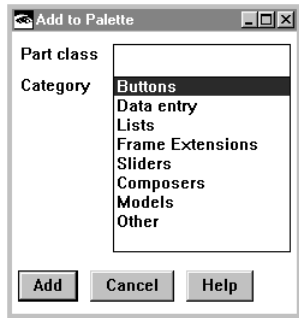

Figure 121. The Add to Palette Window
1. In the Composition Editor, select **Modify palette**→**Add new part** from the **Options** pull-down menu. The Add to Palette window is displayed as shown in Figure 121.